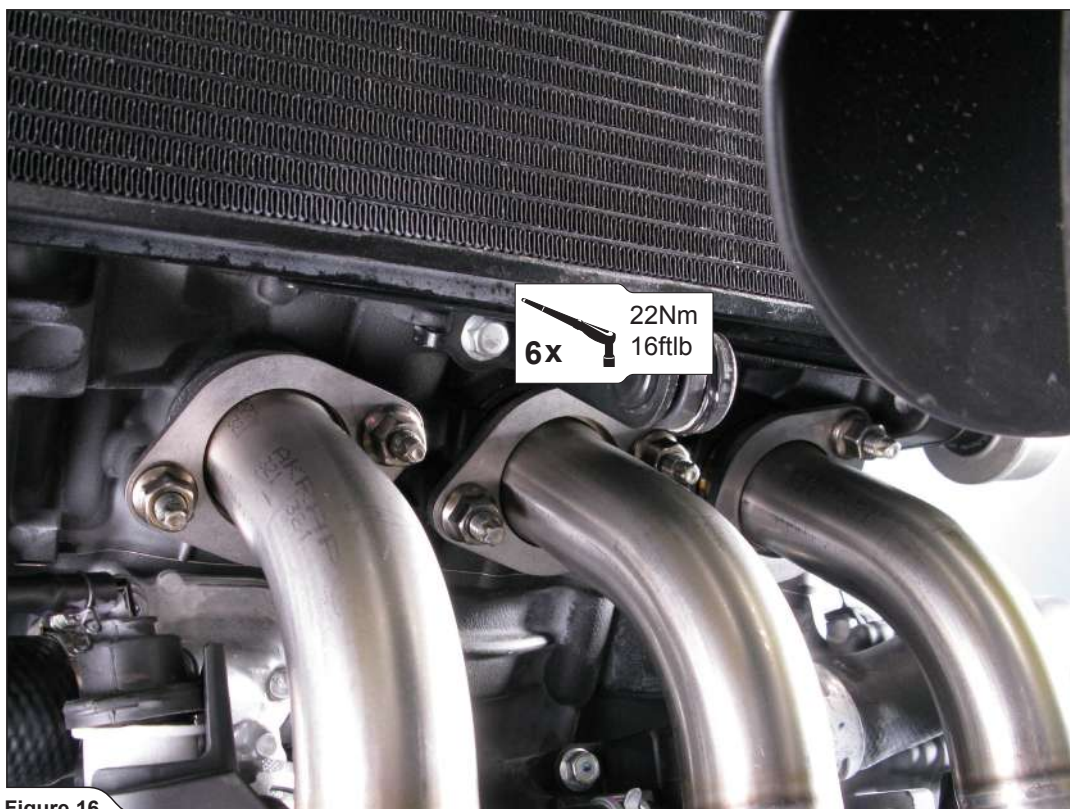

Figure 16
8. Tighten the header's flanges to specified torque (**Figure 16**).